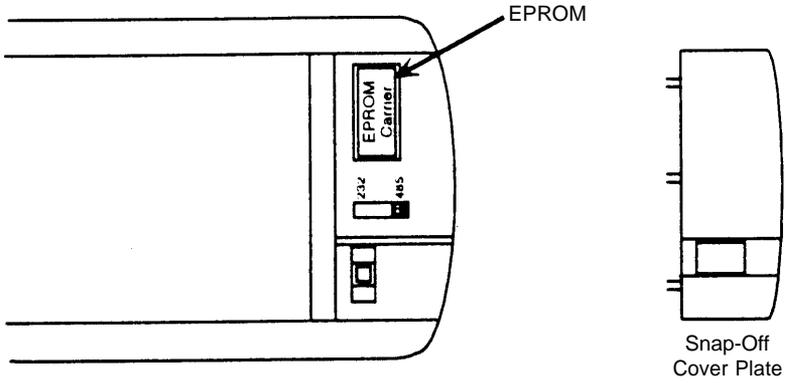

Figure 12. Replacing the EPROM
4. Remove the EPROM from its socket (see Figure 12).